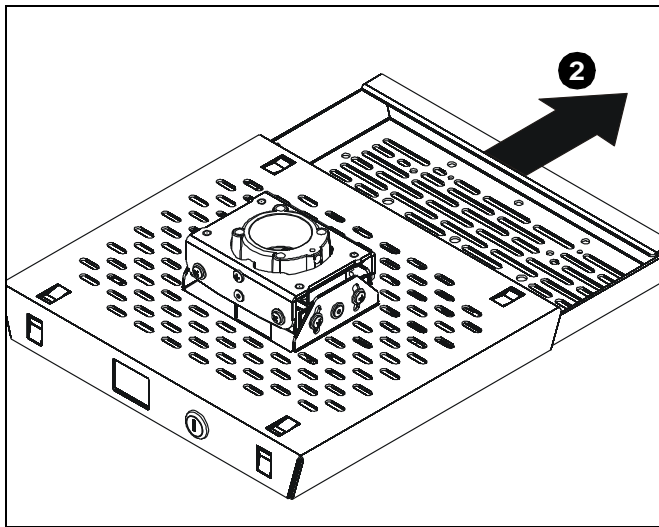

Figure 1
2. Remove drawer from MSP-RPAA2W outer sleeve. (See Figure 1)